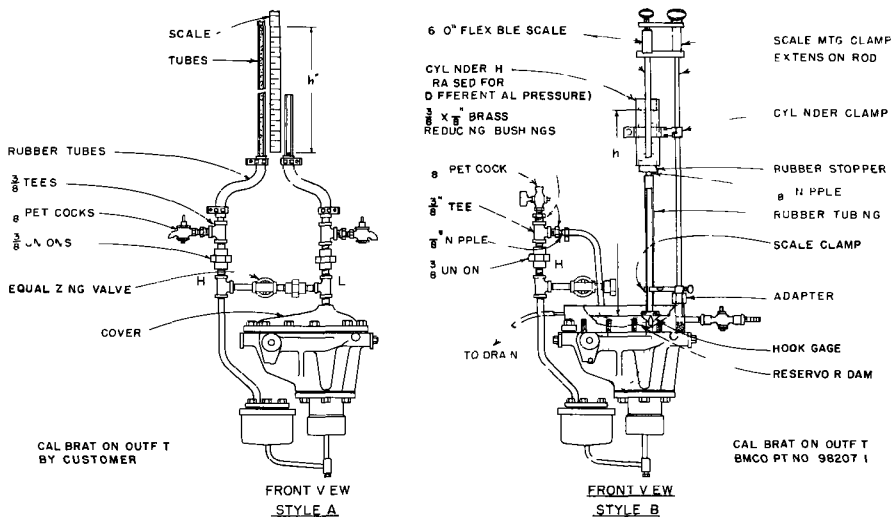

FIGURE 2 Typical Calibration Outfits
1. Assemble calibration outfit as shown in Figure 2. (glass tubes may be mounted on a board) With equalizing valve and petcock on H side open, pour clean water into glass tube on L side until water flows from petcock.
1. Position cover gasket on top of pressure casing then bolt on reservoir dam and assemble outfit as shown in Figure 2